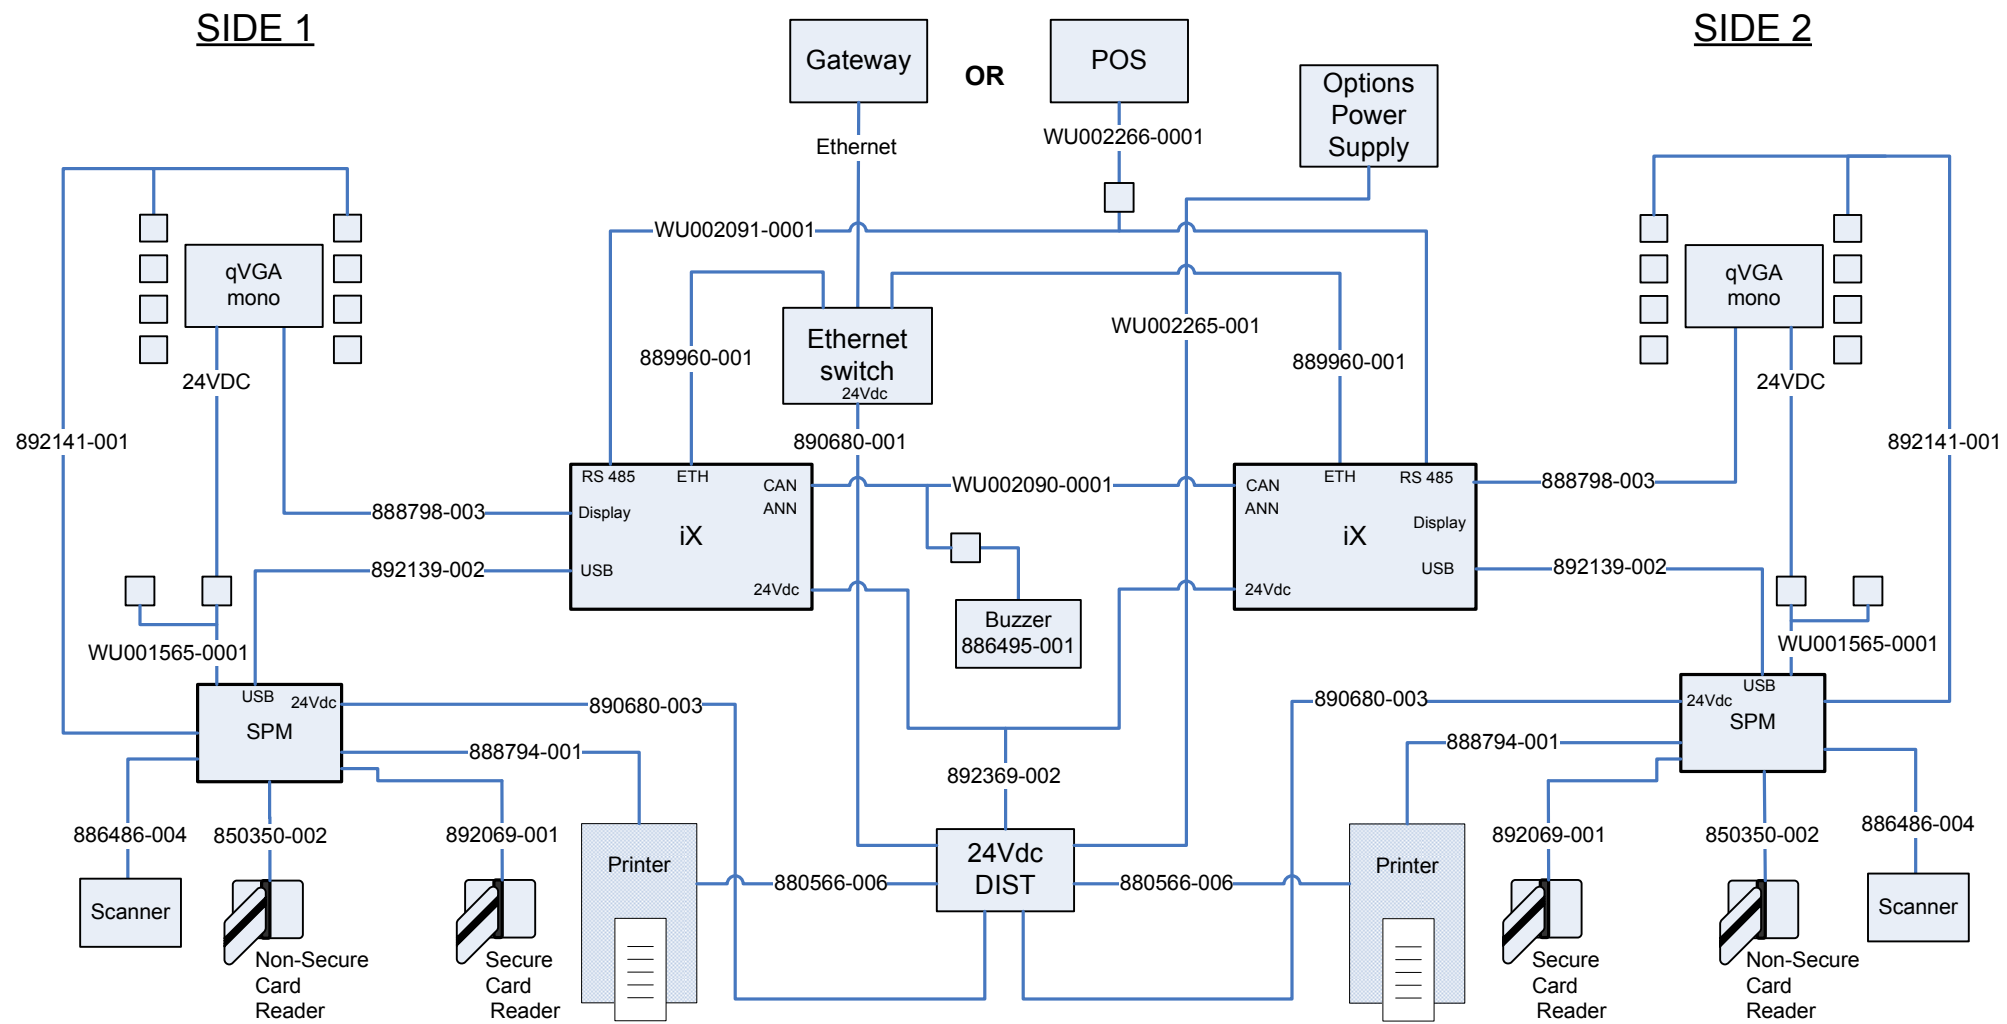

FIGURE 2
2. Unlock printer door, disconnect cables, and remove and discard printer door. Fig 2.